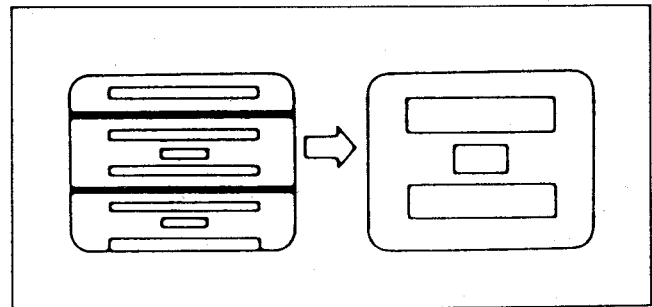

Fig. E2
- (1) Aim the camera at the gray scale chart.
- (2) Adjust the vertical size(VR801) so that the Vertical size is correct and the picture does not roll as shown in Fig.E2.